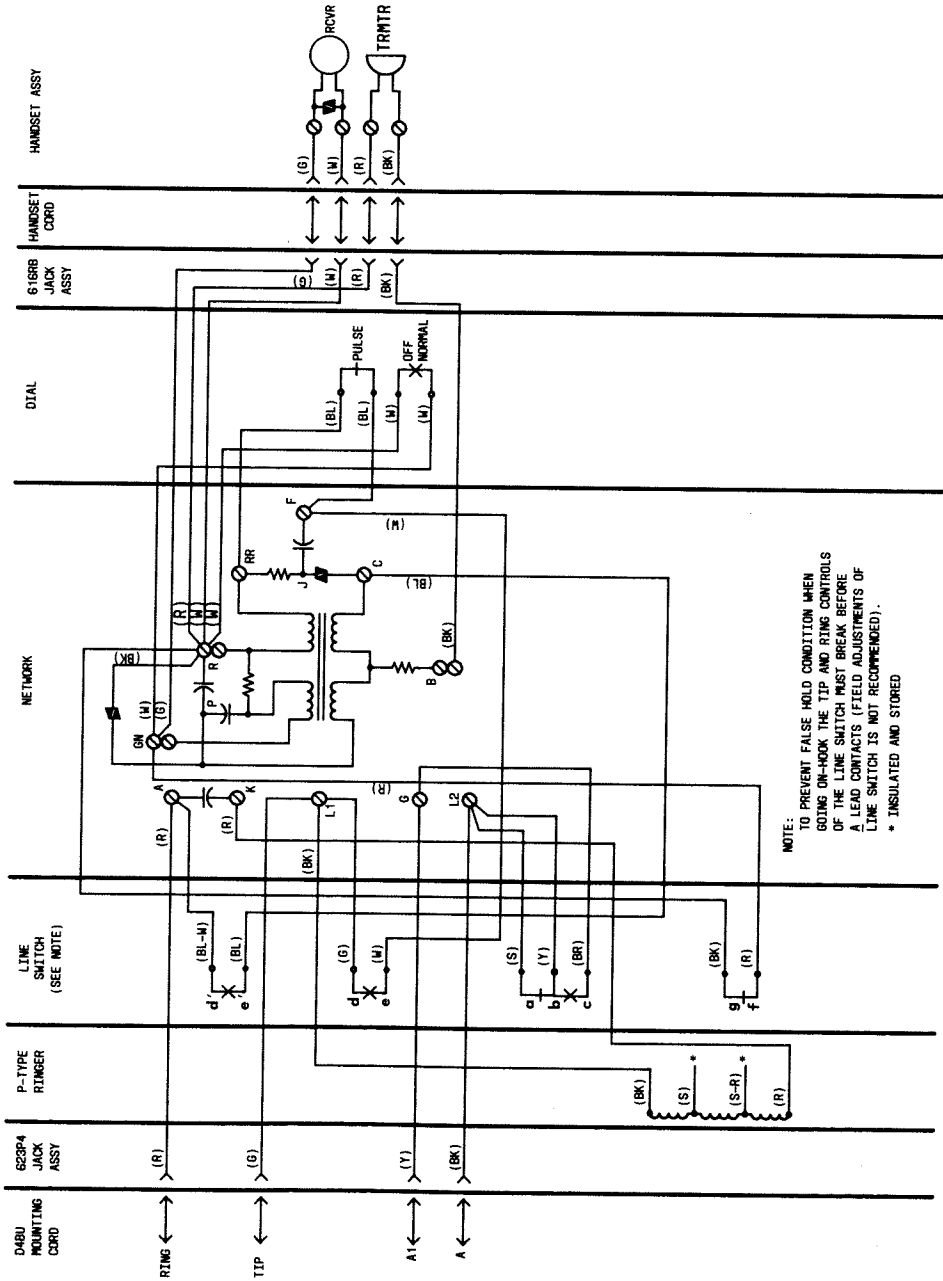

Fig. 5—951A1-03 Telephone Set Connections for 1A1 or 1A2 KTS
**3.07** Connections for 1A1 and 1A2 KTS require moving the brown (BR) line switch lead from L2 on the network to the G terminal as shown in Fig. 5.